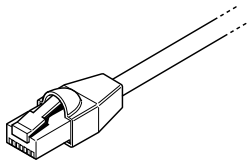

Figure 2-1 Xanbus Cable
- Xanbus cables—each Xanbus-enabled device is connected by a standard straight-through Ethernet cable—CAT 5e. See Figure 2-1. A 2.1 meter network cable is included with the SCP. If more cables or a different length are required, these standard cables can be purchased from Schneider Electric or any computer supply store.